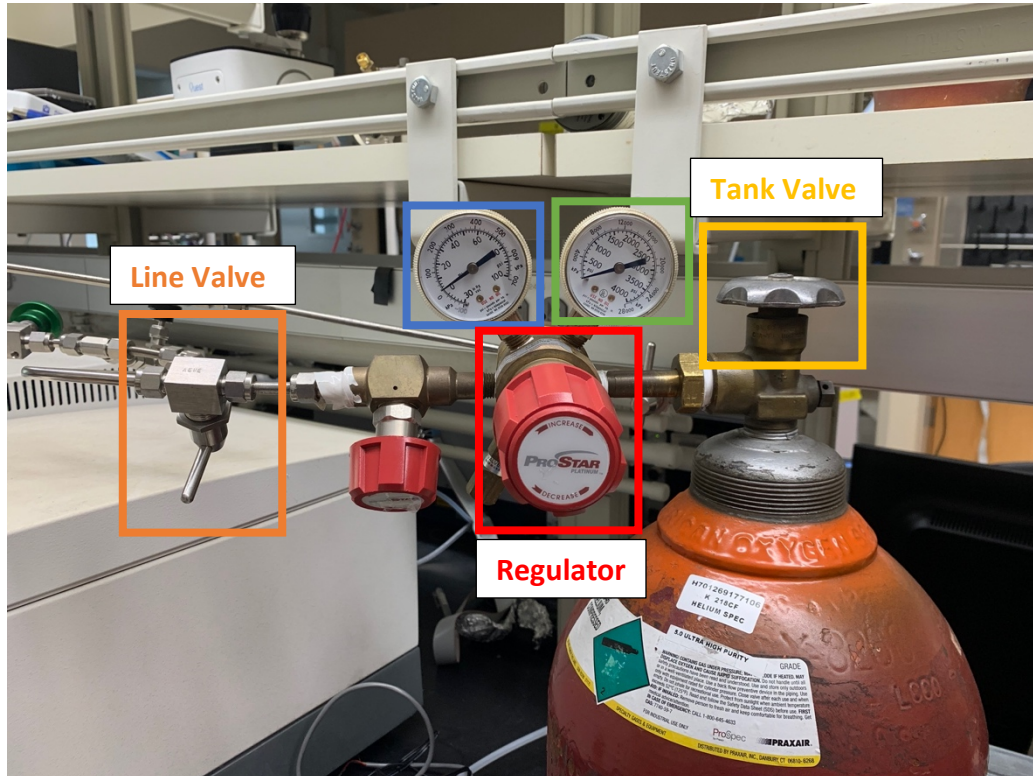

Figure 1: Helium Tank Setup
1. Open Gas Flow (see Figure 1 for Helium tank setup):
3. Turn off Gas (see Figure 1):